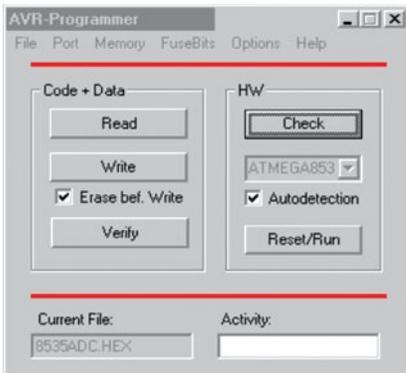

Fig. 5: Screenshot of AVR-Programmer showing activity window
2. Write menu. On clicking the 'Write' menu, the 'Activity' window at the bottom whitens and shows 'Connecting' (refer Fig. 5). Then, the data is transferred to the IC and verified after programming, showing 'ok' in the same window.